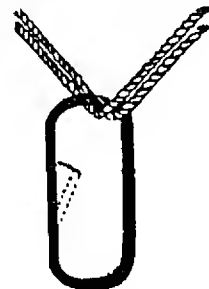

Figure 221 The Rappel Rope Snaplink Attachment for the Seat-Shoulder Rappel
2. Snap the doubled rappel rope into the snaplink which is on your seat harness as in Figure 221.